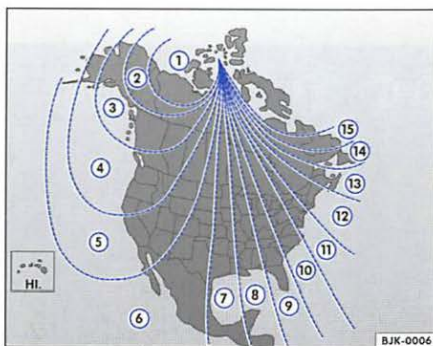

Fig. 12 North America variance zone chart
- Find your current location and variance zone ⇒ fig. 12.